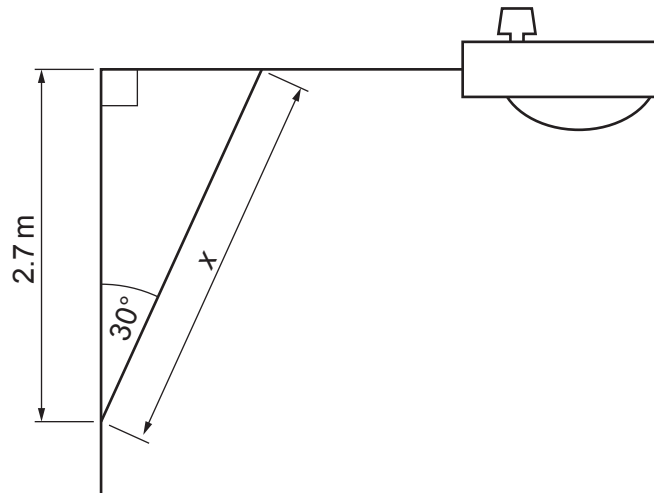

Fig. 3.2
Additional support (x) is added to the street light structure as shown in Fig. 3.2 below.
- (a) Using the information in Fig. 3.2, calculate the length x in metres (m) to 2 decimal places. Show your working.